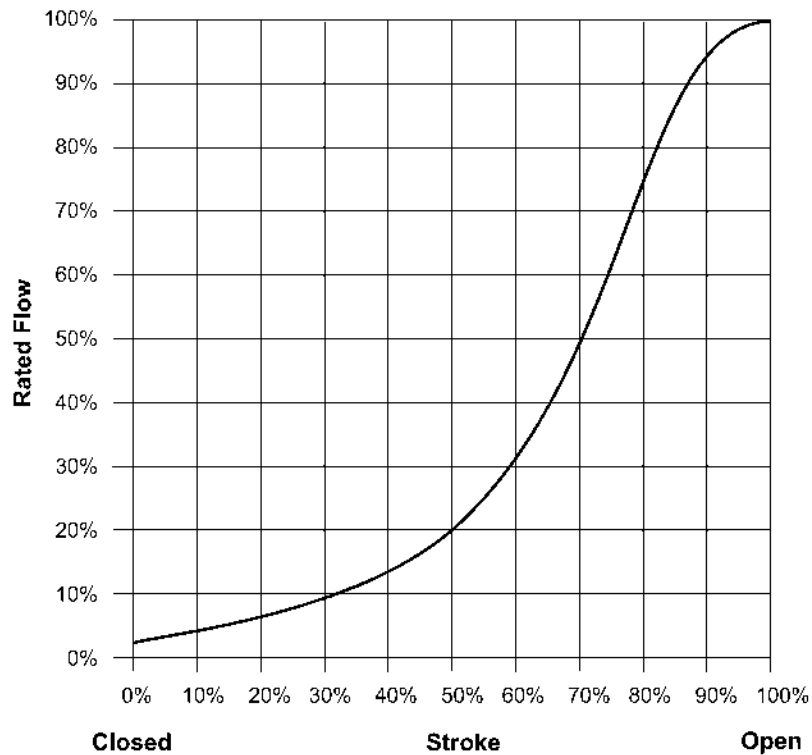

Figure-1 Typical Modified Equal Percentage Flow Characteristics.
**2-Way Valves:** All valves have modified equal percentage flow characteristics. That is, for equal increments of valve stem stroke, the change in flow rate with respect to valve stroke may be expressed as a constant percent of the flow rate at the time of the change. The change of flow rate with respect to valve stroke is relatively small when the valve plug is near the valve seat and relatively high when the valve plug is nearly wide open. See Figure-1 for typical modified equal percentage flow characteristics of VB-72XX and VB-92XX series valves.